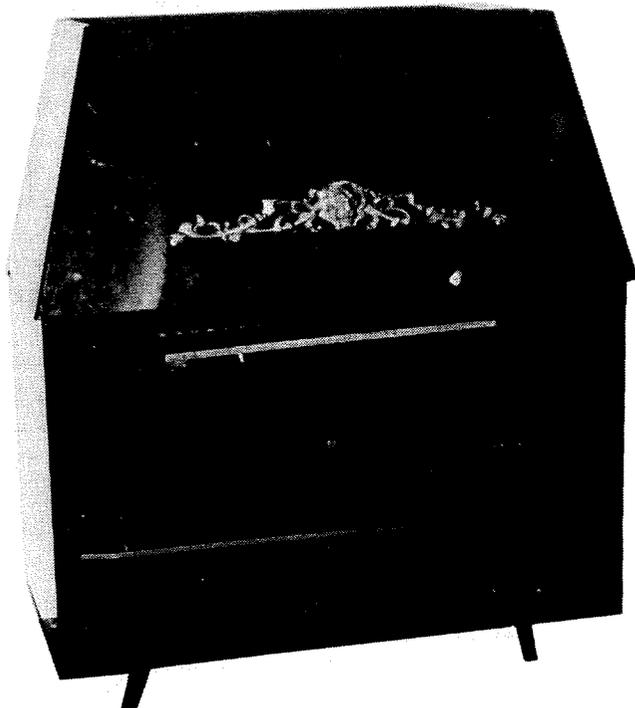

Fig. 49. The Belgian Efel uses wood or coal.
- 27. **Southport Stoves, Inc.** (importer), 248 Tolland St., East Hartford, CT 06108. The Belgian Efel (Fig. 49 and Table 5) delivers heat by radiation when hood is raised, and by convection when hood is in place. Barbecue grill is standard. Loading door is of double-layered sheet-steel with air space and is sealed with asbestos gasket. Baffle forces heat-flow to front of stove and around sides. Legs are 3 inches high and of porcelainized cast iron. The Efel can be vented into a fireplace. Manual draft controls are concealed behind front panel. Flue collar with built-in damper optional. Choice of six colors.